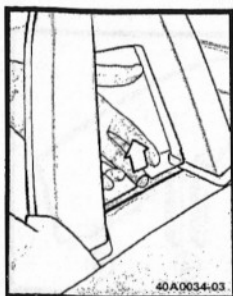

FIGURE 3
5. Place your finger into the half round notch in the bottom of the Roll Hoop Panel and slide the panel upward until it is snug. (FIGURE 3)